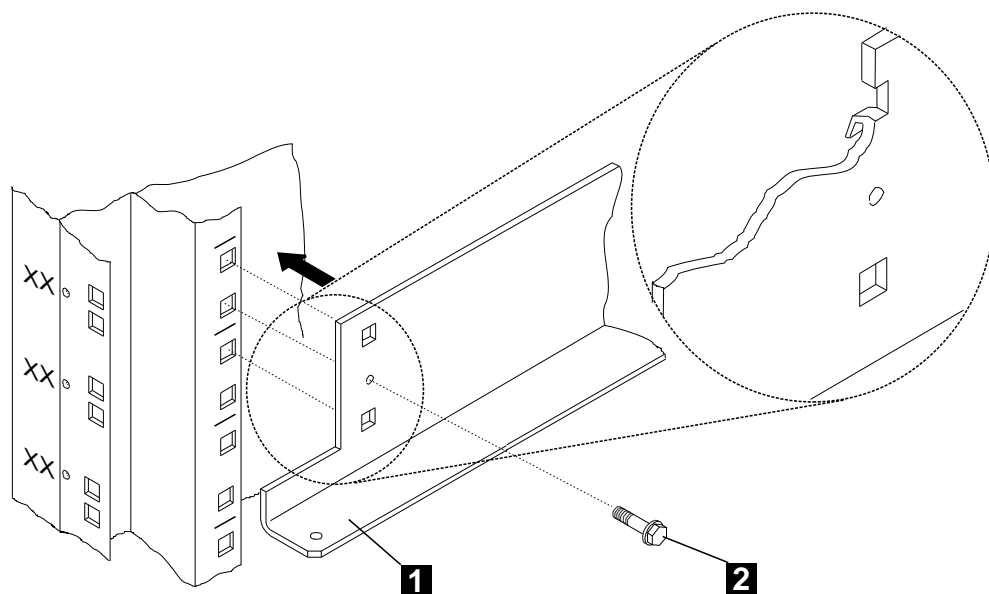

Figure 6. Installing the Network Node Processor B Brackets
- ___ 4. Tighten using the four screws p/n 2665527 **2** (see Figure 6 on page 9)